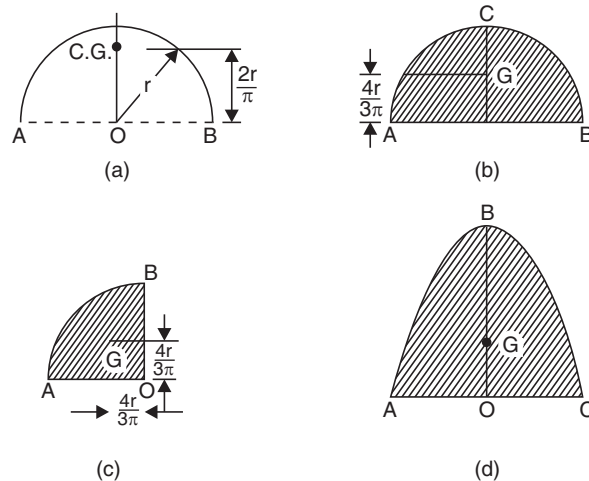

FIGURE 2.9
- (ii) The C.G. of a semi-circular arc [Fig. 2.9 (a)] is at $2r/\pi$ above base AB .
- (iii) The C.G. of a semi-circle [Fig. 2.9 (b)] is at $4r/3\pi$ above base AB .
- (iv) The C.G. of a quadrant of a circle [Fig. 2.9 (c)] is at $4r/3\pi$ from AO and OB .
(xiii) C.G. of a parabola [Fig. 2.9 (d)] is at $\frac{2}{5}$ of the axis OB above AC .